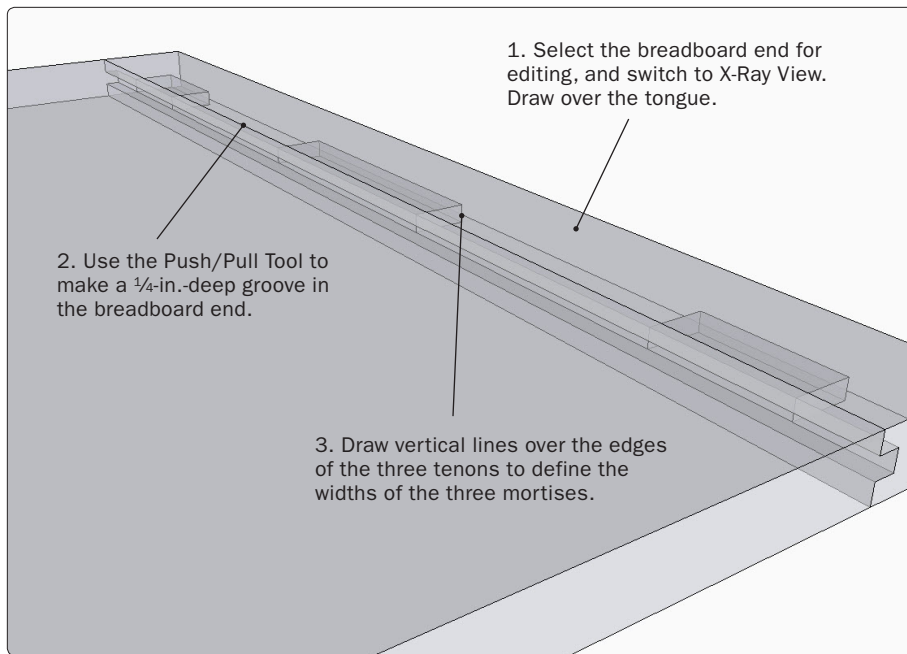

Figure 42. Use the tenon on the top to make the groove in the breadboard end.
Step 38 As you have before, use the tenons on the top component to shape the mortises and groove in the breadboard end. In the View Menu, switch the face view to X-Ray View. Select the breadboard end component for editing. Trace over the tenons on the face of the breadboard end. Use the Orbit and Zoom Tools as needed to clearly see and locate the edges of the joint. Push the appropriate arrow keys while drawing lines to stay on the proper axis. In this case, the left arrow key will constrain the line to the green axis. Use the Push/Pull Tool to make the groove in the breadboard. Then draw vertical lines on the breadboard to define the widths of the three mortises. (Figure 42).